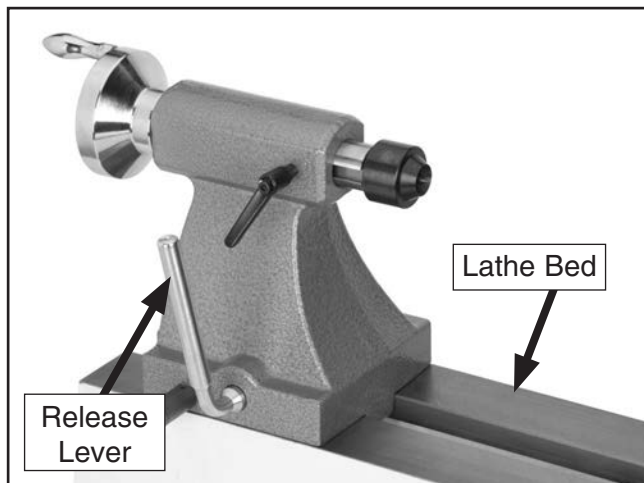

Figure 21. Tailstock controls.
1. Loosen the release lever and move the tailstock to the desired position (**Figure 21**).